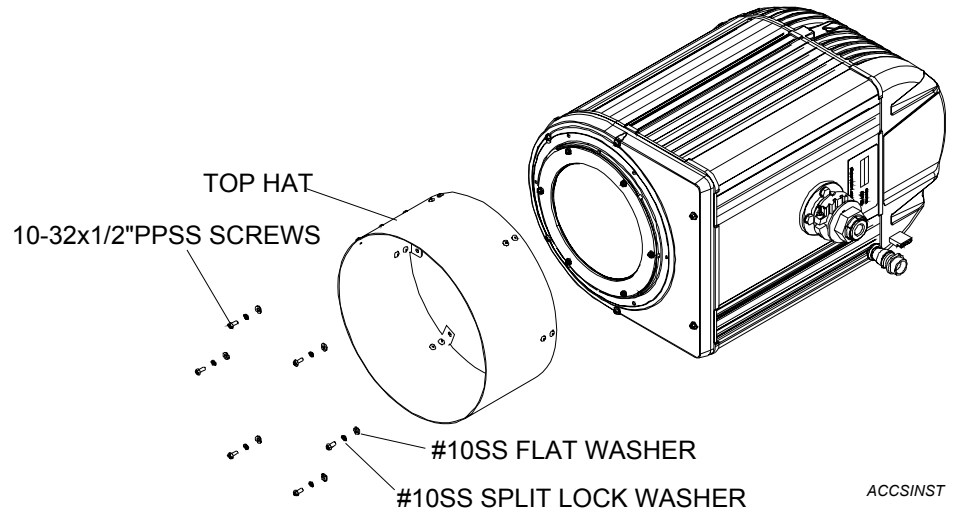

Figure 7.14 - Top Hat Installation
1. At front casting accessory screw pattern, remove six 10-32x1/2"PPSS screws, #10SS split lock washers, and #10SS flat washers (Figure 7.14).